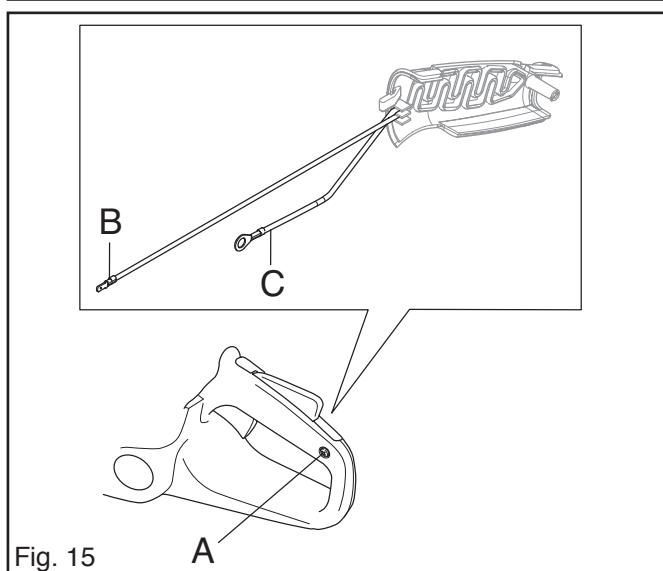

Fig. 15
1. Remove the rear hand grip insert (A). See fig. 15.
2. Remove the cable connections (C and B). See fig. 15.